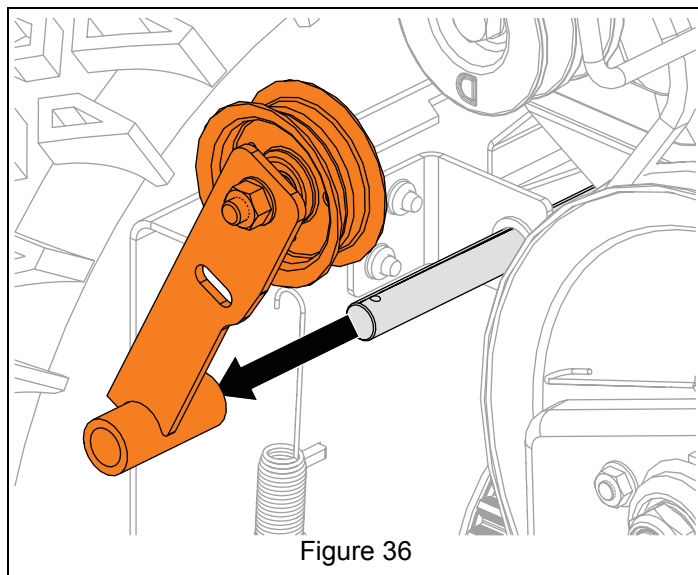

Figure 36
7. Remove traction idler arm assembly from pivot rod. See Figure 36.